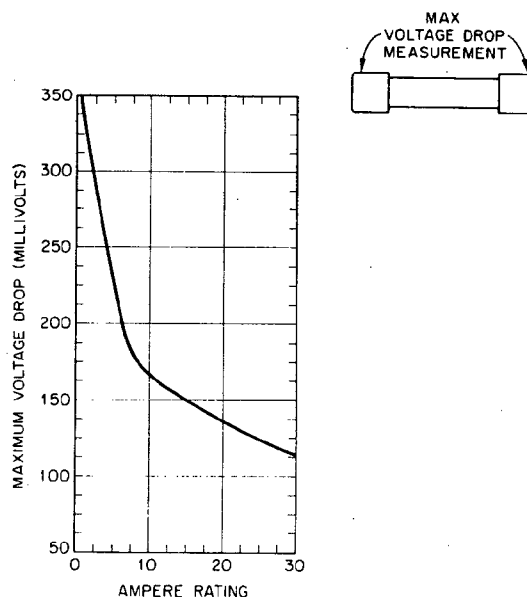

FIG. 4—MAXIMUM VOLTAGE DROP OF FUSE AT RATED CURRENT
5.4 Maximum Voltage Drop—The maximum voltage drop (in millivolts) at rated current across the fuse only, shall be as shown in Fig. 4, when measured across the fuse from ferrule to ferrule.